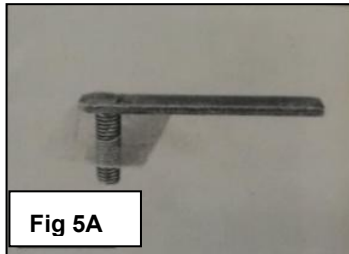

Fig 5A
5	Locate the round hole in the back of the outer frame channel directly behind the previously installed Bolt Plates, (Figure 5B) . Remove the rubber plug. Select (1) M10 Bolt Plate and (1) M10 Plastic Retainer, (Figure 5A) . Partially thread the Retainer onto the Bolt Plate. Insert the Bolt Plate into the hole and tighten the Retainer as previously described. IMPORTANT: Mounting areas may be covered with undercoating. Scrape excess undercoating from body panel at all mounting locations. Brackets must mount flat against body panels